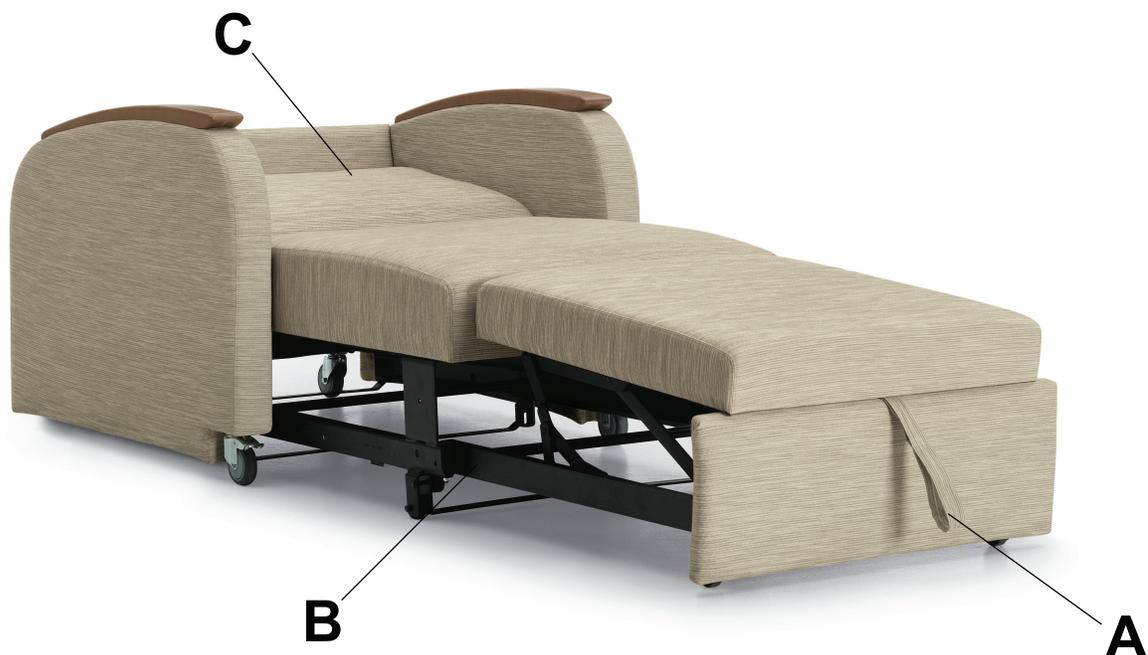

Figure 4 – Lying flat
1. After you recline (*Reclining* (page 6)), pull the strap (A) on the front of the recliner to slide out the extension frame (B) until it stops (Figure 4).